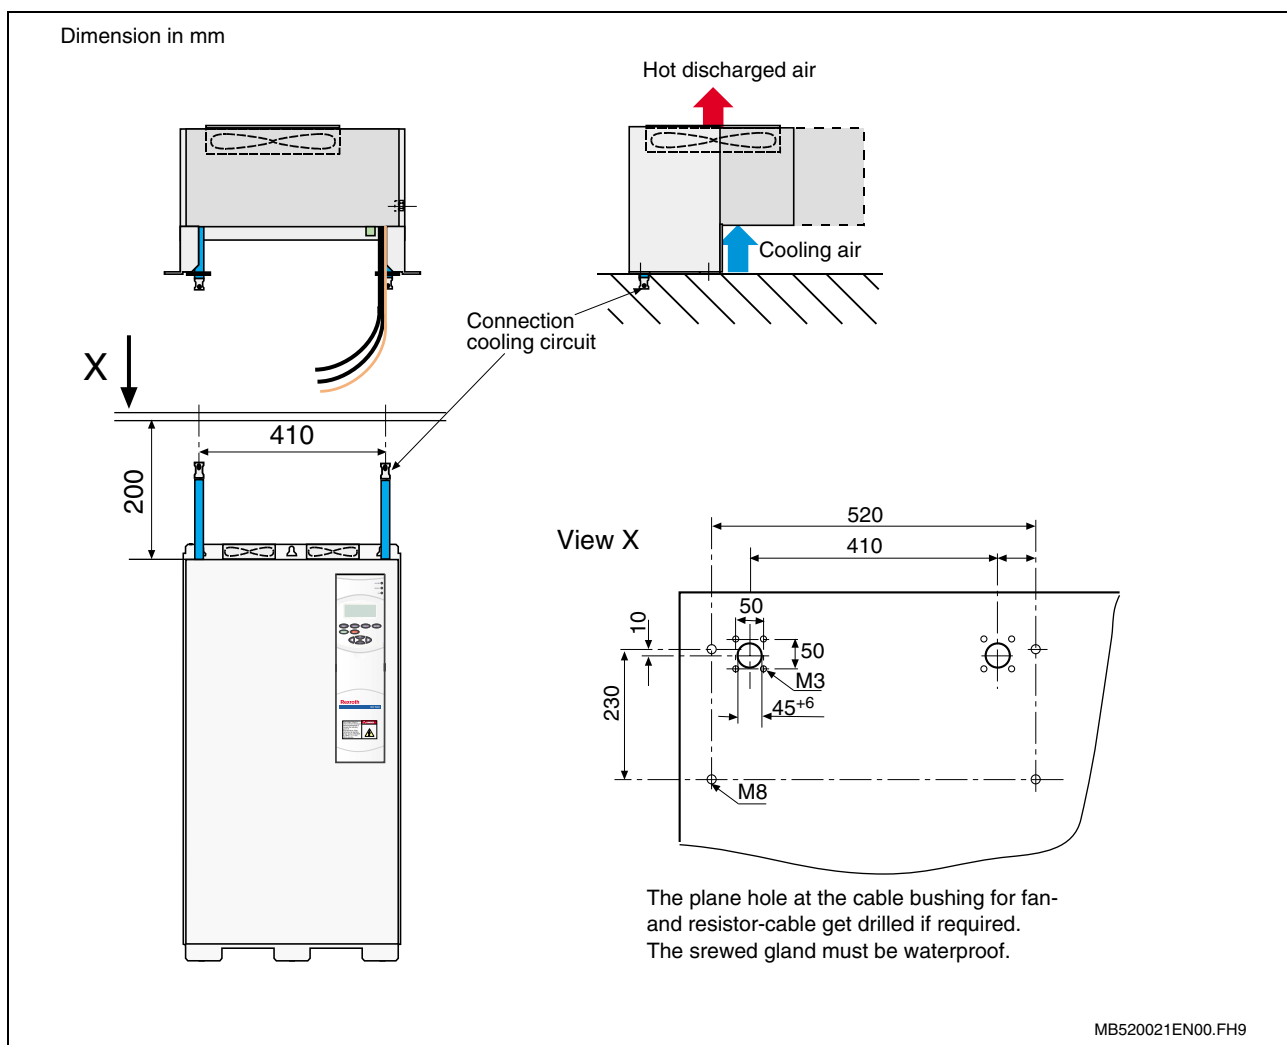

Fig.: 5-19 Dimension sheet for cabinet roof mounting, size class G
- Attach the external heat exchanger to the desired location. This can be mounted on the roof or wall of the cabinet. See Fig.: 5-19. Additional technical data are described in documentation DOK-RD500\*-RD500\*SUPPL-FKxx-EN-P (Accessories).